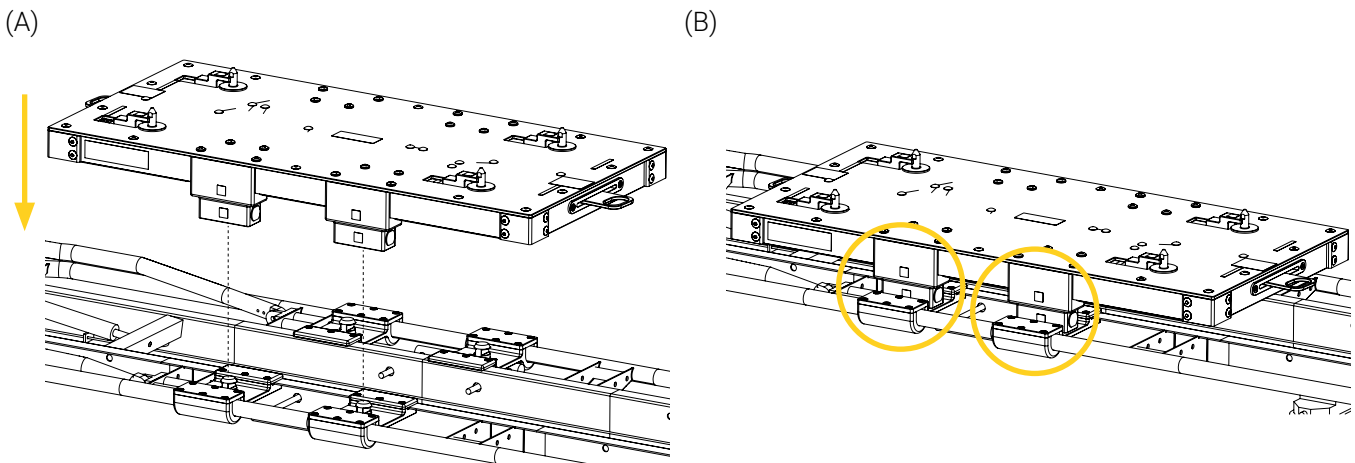

Figure 22: Installing the mounting solution on the clamp blocks
- Lift the mounting solution at the extremities, then aligning with the clamp blocks, set the platform on the stretcher (Figure 22). Refer to the « 2.3. Safety Measures » on page 12 for the safe lifting technique requirements.